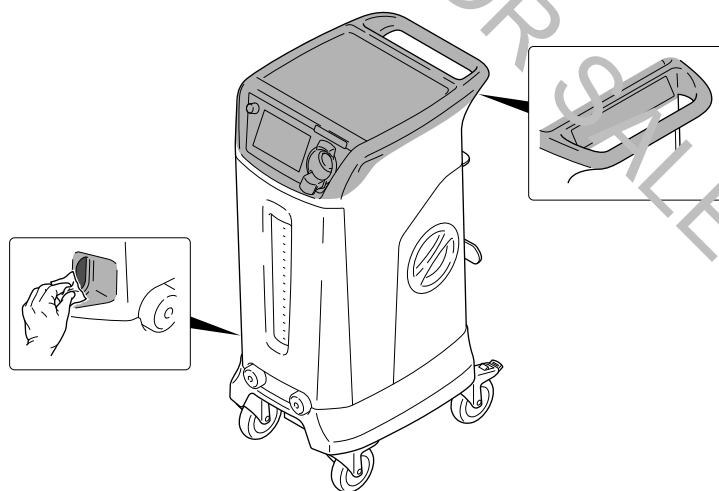

Figure 39 – Wipe Down the Rover
1. Wipe all external surfaces of the rover with a soft, lint-free cloth moistened with a non-abrasive, hospital disinfectant prepared to the manufacturer's instructions. Pay particular attention to highlighted critical areas such as the work surface, handle, main control panel, communication window, and man fold receptacles (Figure 39).